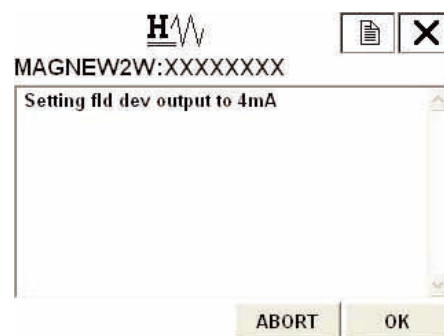

Figure 7-46
4. Figure 7-46 will then appear. By pressing F4 (OK), current adjustment will start and the converter will output a current corresponding to 0% of the flow range. If it is fine, press F4(OK)